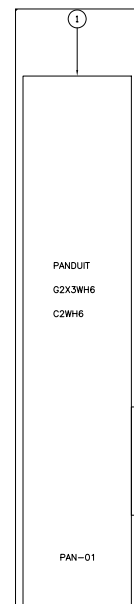

Figure P2-18 Attributes inserted in the footprint
9. Choose the **Done** button to exit the dialog box. Figure P2-18 shows the attributes inserted in the footprint.